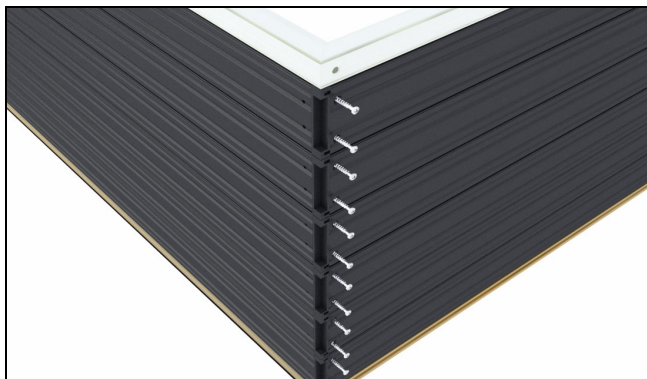

Figure 85
2. Fasten head jamb to side jamb using #8 x 1 1/4" pan head screws. See figure 85. *Note: If unit is prepped for motorization, use two #8 x 3/8" pan head screws on interior track.*